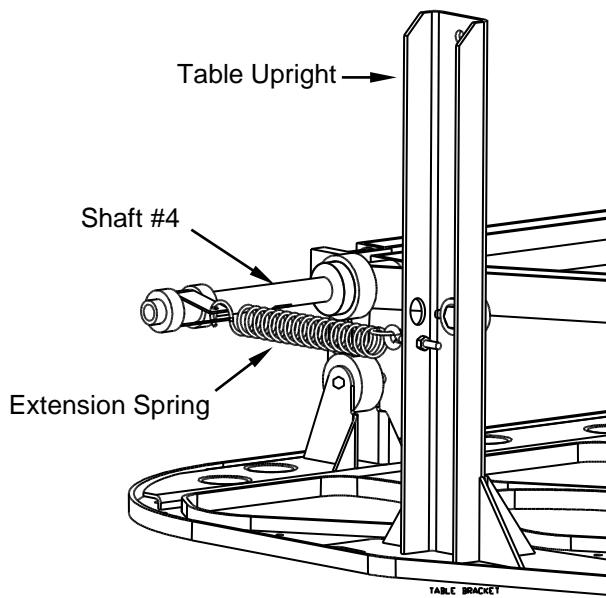

Figure 4.2-18
4. Disconnect the extension springs (one on each side) which attach yoke shaft #4 to the table uprights. (See Figure 4.2-18.)